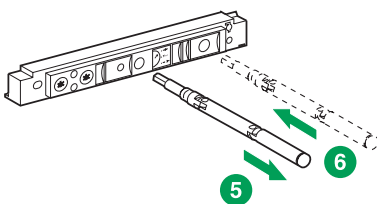

Fig. 40
- Put the crank back into its lodging (see Fig. 40).